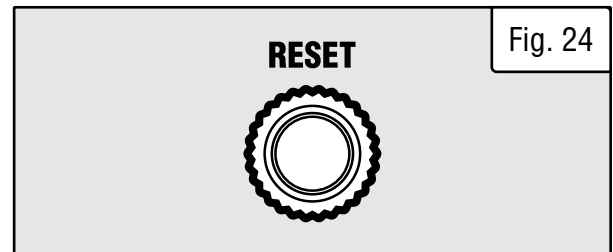

Fig. 24
- When you've overloaded the generator, the overload light will stay on and the reset button (Fig. 24) will activate to cut off the output in 3 to 16 seconds, depending on the load. Reduce the load by turning off and disconnecting your electrical device(s) until the overload light turns off. Wait about five minutes and then press the activated reset button to reset the circuit. If no power is produced after resetting, turn off and disconnect all electrical devices and restart your generator.